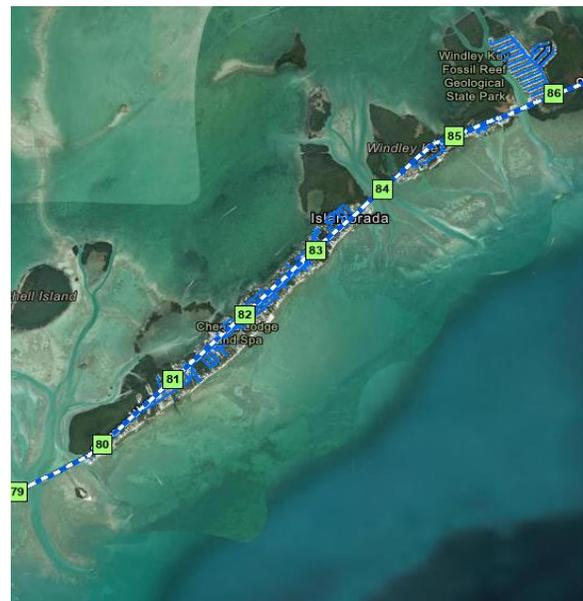

Figure 1. Project Limits
Understanding the pipeline was getting to the end of its useful life, FKAA decided to invest in a new, 36-inch-diameter, steel water transmission main. This paper discusses the specific project area in Islamorada and Windley Key, spanning approximately 6.5 miles between mile marker (MM) 79 and 85.5 (**Figure 1**), as well as the next steps FKAA is undertaking to improve the distribution system.